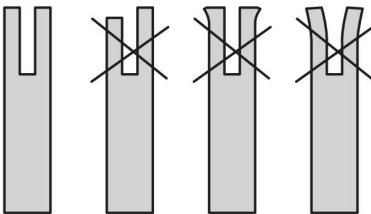

Fig. 72
5. Check the guide bar 'rail' for wear: Hold a ruler (straight edge) against the side of the guide bar and 'cutter side plates'. If there is a gap between the ruler and guide bar the guide bar 'rail' is normal. If there is no gap (ruler flush against the side of the guide bar) the guide bar 'rail' is worn and needs to be replaced with a new one of the same type (Fig. 72).